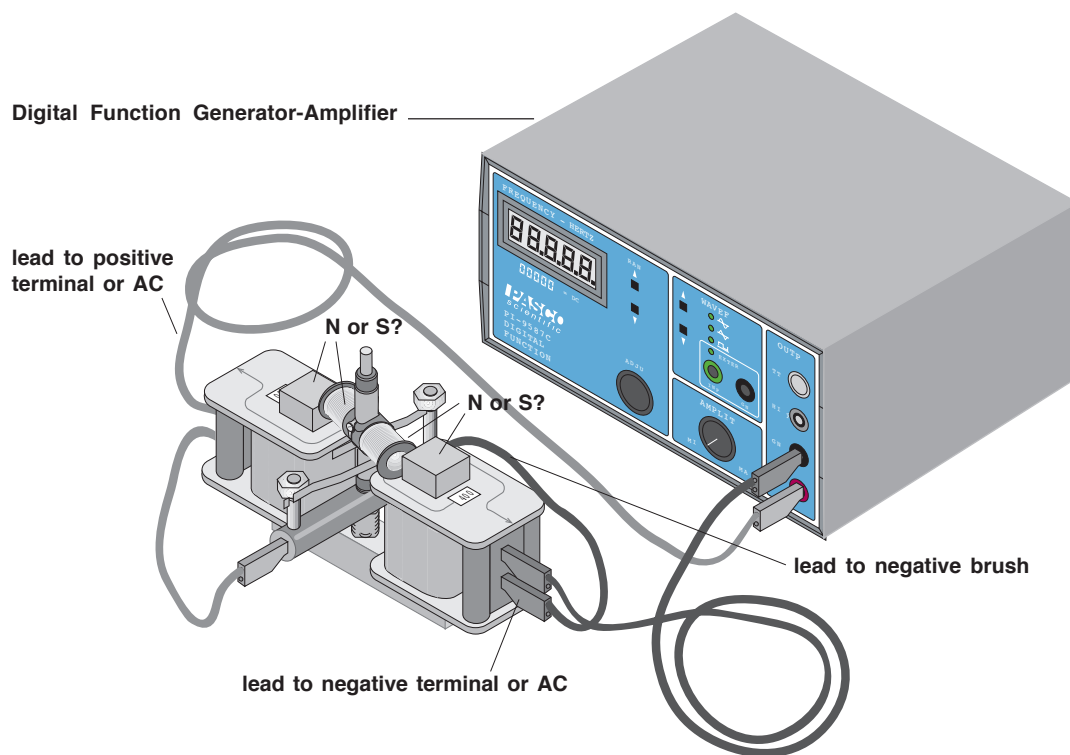

Figure 2. Experimental Setup
- ① Connect the motor the power source as shown in Figure 2. All connections may be made by inserting banana plugs into the openings in the ends of the plastic brush holder and the external coil forms. *Do not turn on the power source yet.*
- ② Rotate the armature and observe how the segments of the split ring commutator contact different brushes as the armature turns.
- ③ Remove the armature from the shaft by grasping it between your thumb and forefinger and rotating it back and forth while lifting gently. If necessary, insert a pencil between the brushes to gently separate them so they don't prevent removal of the armature.
- ④ Examine the armature closely and imagine current entering one of the split rings from a brush. Trace the path of the current through the wire to the coil, through the coil, through the
wire to the coil on the opposite side of the armature, through that coil, and through the wire to the other split ring and into the second brush. By carefully examining the part of the coils where the leads emerge from the coil, you can determine the direction in which the wire is wound on the coil. [Current direction is described as being from the positive to the negative (conventional current). Note that this is opposite of the direction of electron movement.] Draw arrows on Figure 2 showing the direction of current at various points in the motor, armature, and wire.
- ⑤ You can use the “right-hand rule” to predict the direction of the magnetic field of a coil. Grasp the coil with your fingers wrapped around the coil in the direction of the current. Your thumb will point in the direction of the field (that is, toward the north pole of the coil). Label the ends of the coil N and S in Figure 2.
- ⑥ Gently replace the armature onto the shaft. The split ring commutator should be down. Carefully rotate the armature back and forth to separate the brushes and allow the commutator to slip down between them. If necessary, insert a pencil or similar object between the brushes to separate them. Use only the most delicate force to avoid bending the brushes and necessitating adjustments or repairs.
- ⑦ Use the right-hand rule to establish the location of the north and south poles of the U-shaped core. Arrows molded into the plastic coil forms show the direction of the winding in the coils. Label the poles on Figure 2.
- ⑧ Turn on the power supply (10 volts DC) for the next step.
- ⑨ Use the small cylindrical ceramic magnet to check your predictions from steps 5 and 7 above. The painted face of the magnet is its North Pole (north-seeking pole). [You can verify this by hanging the magnet from a thread and observing that the painted face points toward the North (toward the earth's north magnetic pole, located in northern Canada).] With the armature and power supply leads oriented as in Figure 2, hold the ceramic magnet near the ends of the armature. If both poles of the ceramic magnet attract the armature, the pole with the stronger attraction will be the opposite pole. Verify that the result of the tests agree with your labeling of the figure. Determine the polarity of the U-shaped core in the same way. Label its poles N and S in Figure 2.
- ⑩ Predict the direction the armature will rotate when you release it from the position shown in Figure 2. If the motor does not start up immediately, try turning it by hand in the opposite direction.
- ⑪ Turn off the power and reverse the leads to the brushes. Before turning the power on, predict the direction of rotation. Turn the power back on and immediately try spinning the motor to start it. If it doesn't start, try spinning it in the other direction.
- ⑫ Predict the effect on the motor's speed of decreasing the voltage to 8 volts.
- ⑬ Predict the effect of replacing the direct current with alternating current of 10 volts at 12 Hz. Also predict the effect of then reducing the voltage to 8 volts. Test these predictions.
- ⑭ Predict the effect of raising the frequency to higher values such as 15, 20, 25, and 30 Hz. Test this prediction. Try to explain the result. (The explanation involves the concept of inductive reactance.)